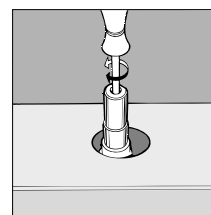

fig.9
- Remove the tap knob and turn the adjusting screw, situated inside of the tap stem (fig.9), using a screwdriver (loosening the screw increases the height of the flame, tightening decreases it).